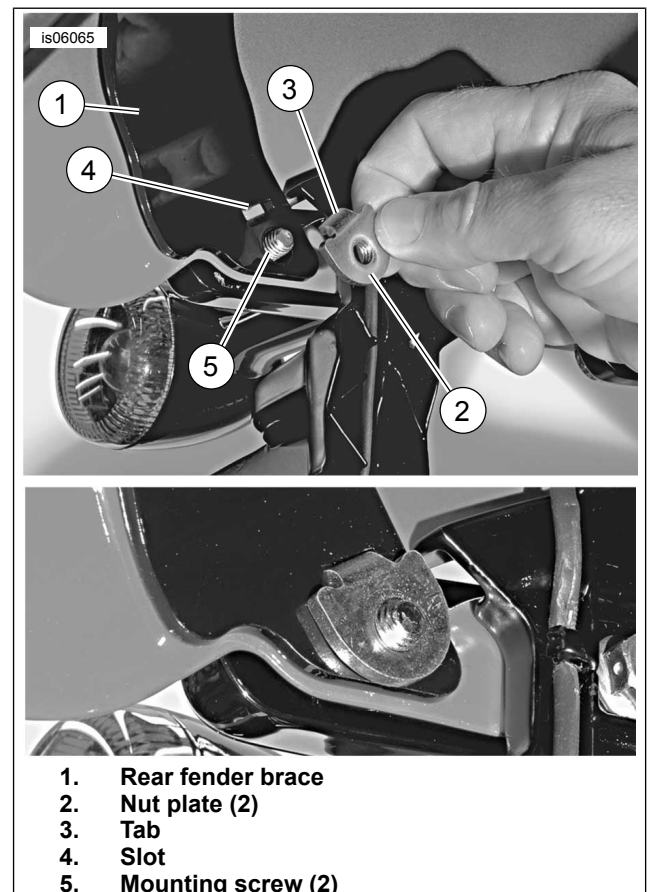

Figure 2. Rear Fender Nut Plate
13. See Figure 2. Make certain that the tab (3) on each nut plate (2) fits into the slot (4) in the fender brace (1) when securing the nut plates with the rearmost fender mounting screws and washers (5). Do not fully tighten.